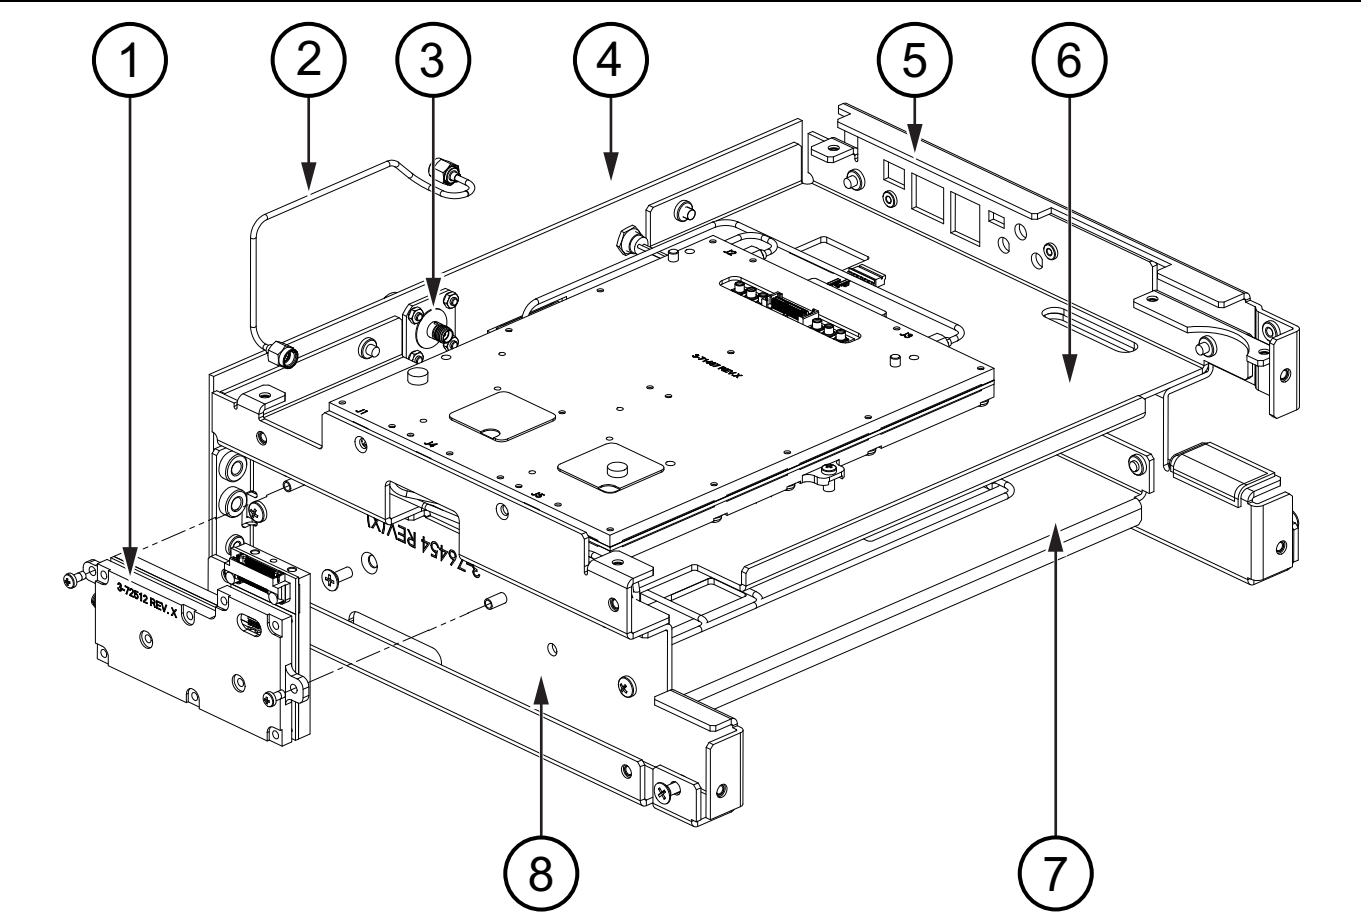

Figure 5-6. VNA Option
| 12. | M3, 6 mm Screw (1 of 2) to secure RF Board to Chassis Tray (item 6 in Figure 5-6 on page 5-8) |